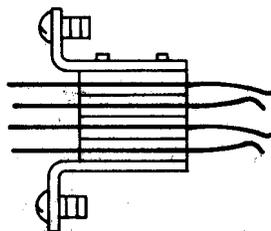

Fig. 6—506A Jack
2.06 506A: The 506A (Fig. 6) is a multicontact jack. This jack consists of two metal brackets between which there are mounted two pairs of contact springs that are insulated from each other. This jack is used with a 240A plug and also with the selector and connector shelf equipment in Step-By-Step Telephone Systems.